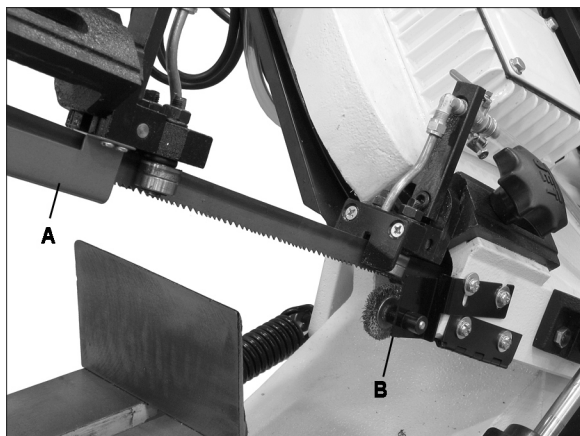

Figure 19
3. Remove red blade guard (A, Figure 19) by removing two screws.
4. Remove brush assembly (B, Figure 19) by removing two screws.
The chip brush (B, Figure 19) must be properly adjusted and maintained in working condition; otherwise, damage to blade can occur. Adjust the brush so that its bristles overlap the blade.